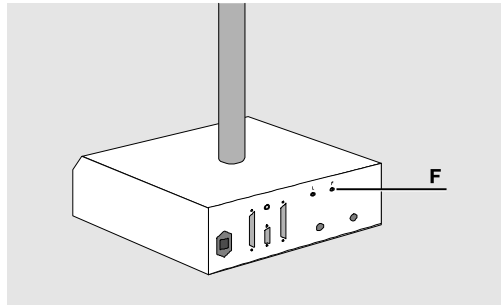

Figure 4-11. Frozen Image ("F") Adjustment on Camera Base
5. Using a small screwdriver, turn the F ("Frozen") screw on the back of the camera base (Figure 4-11) in the direction indicated by the message. (Do not turn the screw more than 1/20 turn at a time.)
- b. Adjust the sliders to achieve the desired brightness (B), contrast (C), hue (H), saturation (S), and for red (r), green (g) and blue (b) settings.